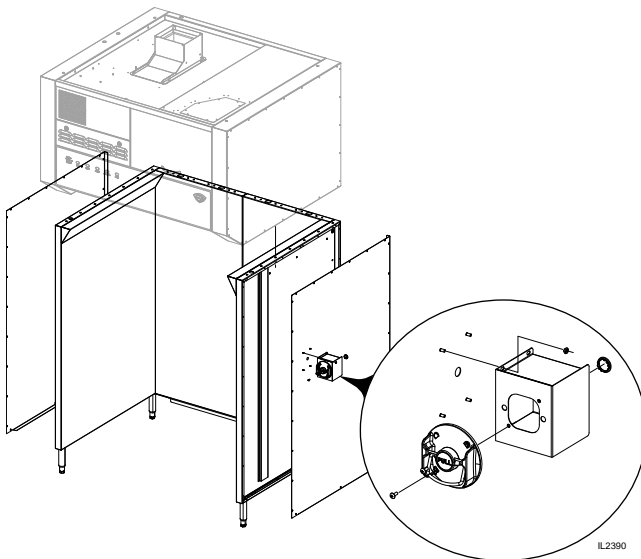

Figure 5
9. Using the upper supporting brackets on the hood, lower the hood on top of the base (Fig 5) so the mounting holes line up. Secure with bolt, washer and nut (7 places each side).